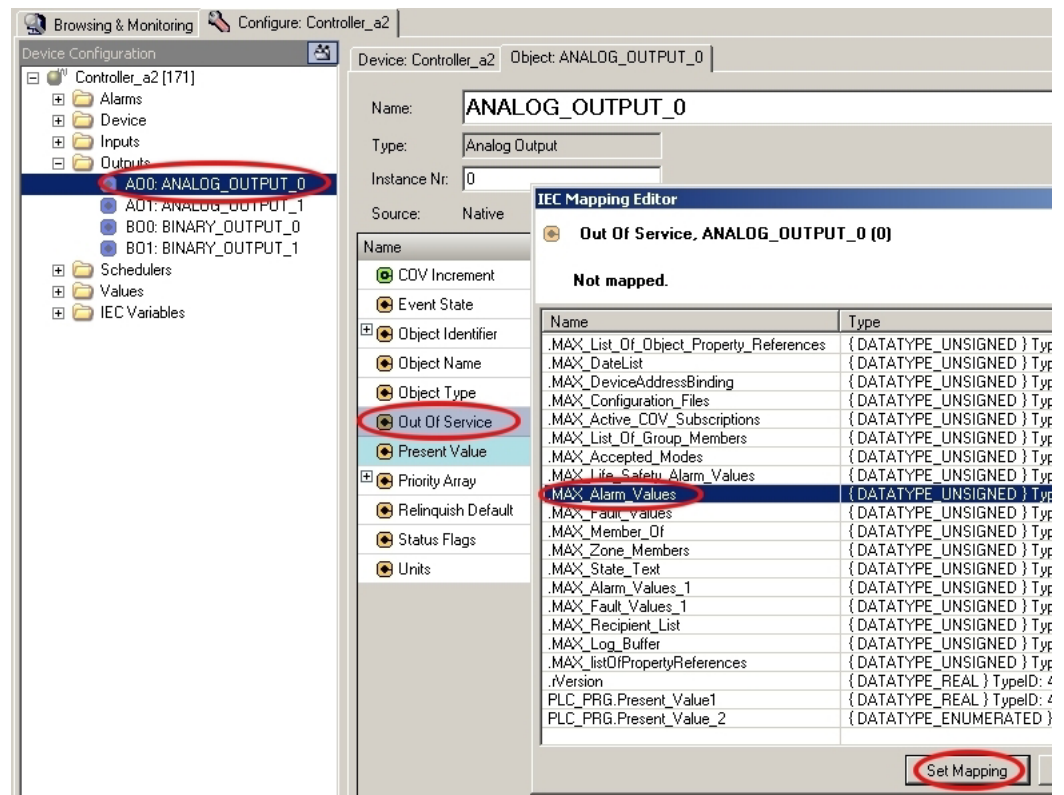

Fig. 4-34: Internal Mapping
- By using **[Set Mapping]**, link **Out of Service** of the **Analog Output Object** with a selected IEC variable of the IEC Mapping Editor (see Fig. 4-34).